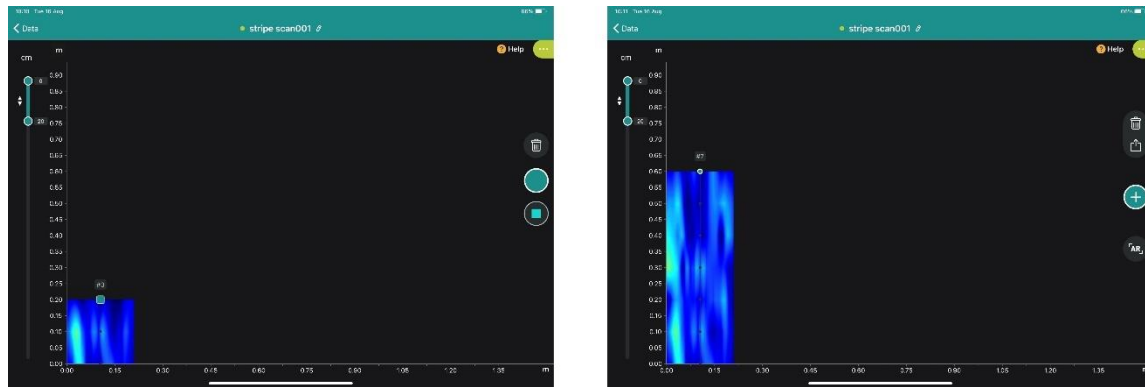
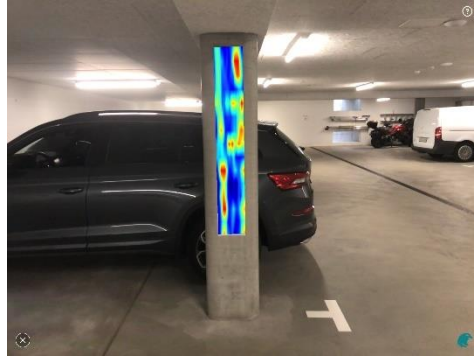
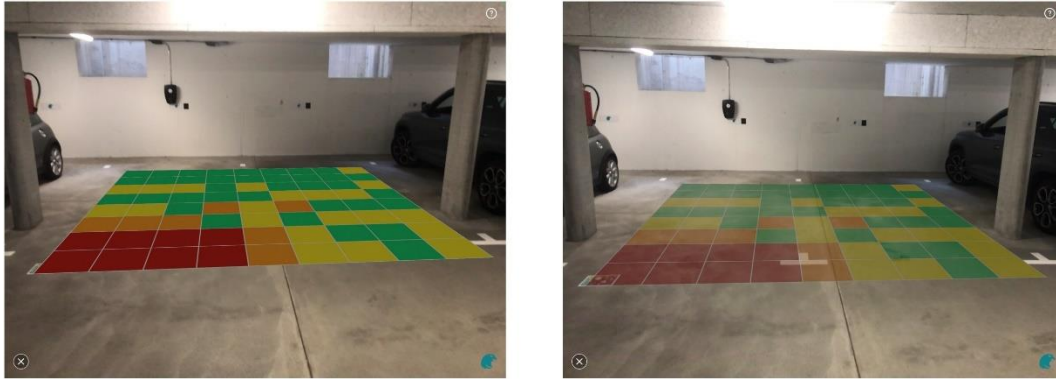

Figure 4: The camera app metaphor applied to the data recording (left) and post-processing (right) of a Stripe Scan
Figure 7: Stripe Scan C-scan image projected onto a column
Figure 9: Grid Scan in AR. Opaque (left) and half transparent (right)
We solved this via abstracting the key characteristics of the camera app: (1) The picture area is dominating the screen and covers most of it, (2) the main action buttons in the workflow are highly prominent, they are round button(s) in the middle of the right-hand side, (3) the settings are de-emphasized, quick interactions on the data area are provided in a toolbar above and below the main action button, other settings are deeper hidden in an expandable side menu, (4) the picture is building up continuously while measuring, so the inspector is always aware that the recording was successful (see figure 4).
Entering AR should be easy and straightforward. To make the entrance easy to perceive we gave it a prominent position, AR is one of the action buttons in the always visible toolbar. Also, the function only appears if the current view is suitable for an AR projection which is the case for Stripe Scan and Grid Scan, and only after a measurement is finished (see figure 4).
To achieve an immersive experience, the marker was given a size so that the projection of the digital object would completely cover it (see figure 7).
The C-scan image is difficult to understand because it is the projection of the aggregated data of a defined depth slice to the surface, with the slider near the left border being the UI element to set the depth slice (see figure 4). On the contrary, the translation of the data into a 3D iso surface is much easier to understand because the objects become visible (compare figures 7 and 8). In the app, the user can freely rotate the 3D image. For AR, the 3D image is normalized in perspective when projected into the real world and its circumscribing cube appears as a hole for a natural appearance (see figure 8, left). As for obstruction, the digital object obstructing the real world is not relevant for this 3D case, because its purpose is illustrating and understanding what is going on below the surface. However, being in a sunken hole makes the hole obstructing for the 3D object. Therefore, for better visibility the user can pull the 3D object out of the hole with an intuitive vertical finger movement and then go around it as desired to view it from all sides (see figure 8, right). The 3D AR projection is the perfect tool when communicating the results to non-experts. Aside adapting the opacity, there is only one other interaction: a vertical two finger swipe toggles between the C-scan and the 3D object in the app and in AR.
The data cell grid in the Grid Scan can also be projected into the real world and allows the inspector to adapt its opacity (see figure 9).
A challenge we had to overcome was the drift of the image with respect to the marker. While fun applications don't need to care about this, a sufficient precision is essential for a structural investigation. The effort our specialist team put into this issue finally paid off. While for big objects and larger distance it is slightly noticeable (but still within tolerance), it is almost eliminated for smaller objects and distances (compare figures 7 and 8 versus figure 9).